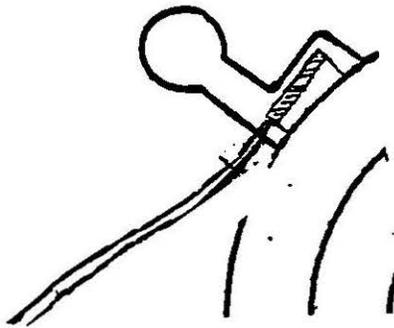

Figure 1a. Heater Strip Stub
1. Using 37/63 Kester solder or equivalent, and a 500 F soldering iron, tin about 1/2" of the heater strip stub along the **outside** surface, that is, the surface that faces **away from** the beam tube if the stub is stretched out straight. (See Figure 1a.)